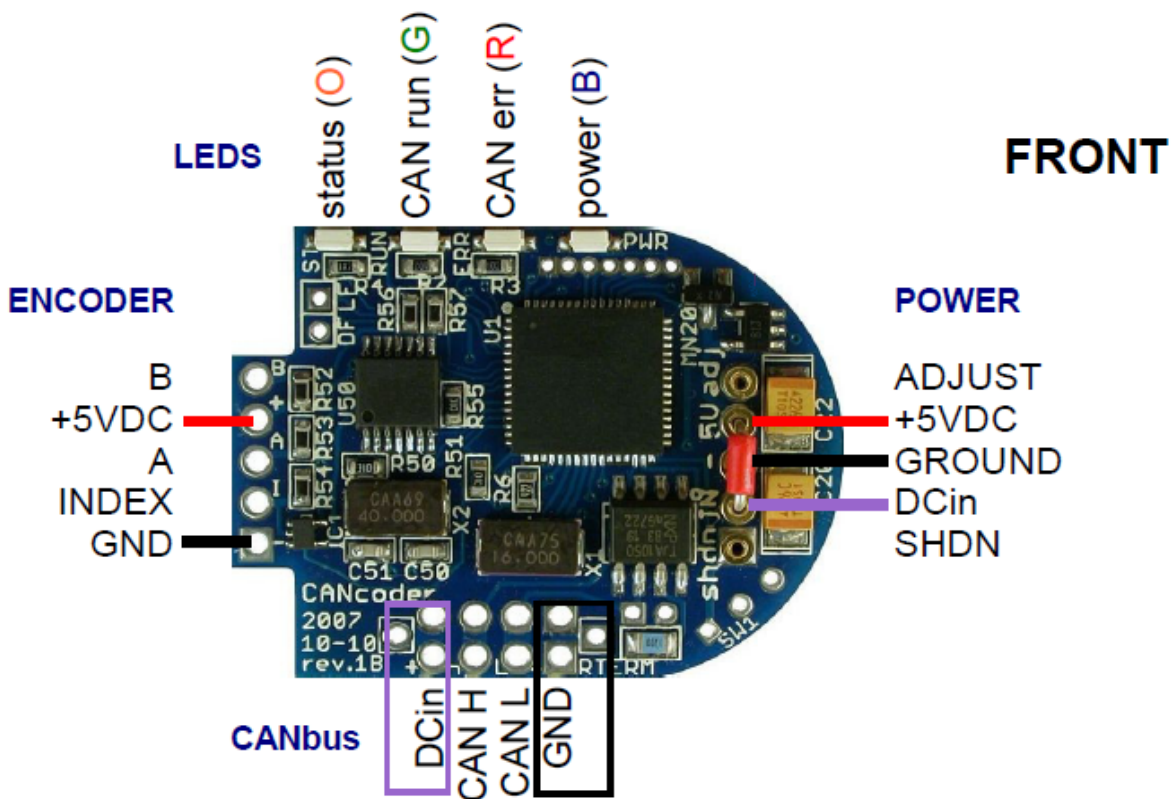
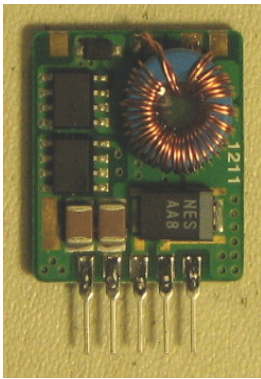
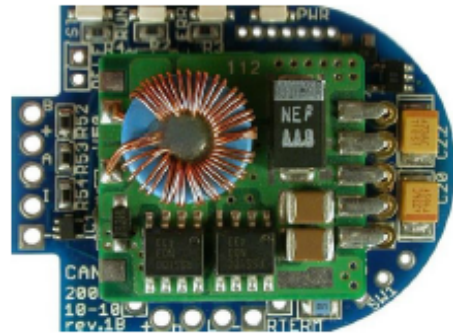

Figure 1
Figure 4
Figure 5
The device is powered from either 5 VDC power or an optional 6-16.5V DCDC mezzanine, shown above in figure 4 & 5. The CANcoder draws approximately 47mA of power from a five volt supply.
Five volts is applied at the “DCin” pads with silkscreen designations “+” and “-”, seen in figures 1 and 2. Additionally, the 5v and the IN pins on the Power socket must be jumpered, as shown with a red wire in Figure 1.
The power mezzanine plugs into the the “power socket” area on the top side of the board. When the power mezzanine is installed the board can be powered with 6v-16.5V through “DCin” pads seen in figures 1 and 2. A mezzanine is shown in figure 4. Figure 5 shows the power mezzanine installed on the CANcoder.
Pads as seen in Figure 1 and Figure 2 :
2. The pads in the CANbus area of Figure 1,2 are for CAN Low, CAN High, and DC Power input.
3. The ADC IO connector of Figure 1,2 is for digital input. See section “IO Port” below.
There are 4 LEDs on the CANcoder (see Figure 1).